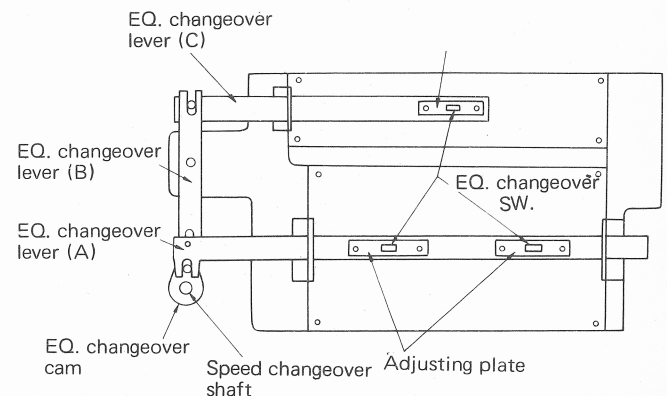

Fig. 4
Fig. 4 shows a back view of the equalizer changeover mechanism. The movement of equalizer changeover cam set on speed changeover shaft is communicated to equalizer changeover switch through changeover lever.
Explained here is a method of adjusting the adjusting plate of the equalizer changeover mechanism under item 9 (p. 12). Fig. 4 shows a state of changeover mechanism with respect to the case where the speed changeover shaft is set at 3-3/4 ips. With this, loosen screws on both sides of the adjusting plate, and move the adjusting plate so that equalizer changeover point may come at the center. Then fix the adjusting plate in that position.